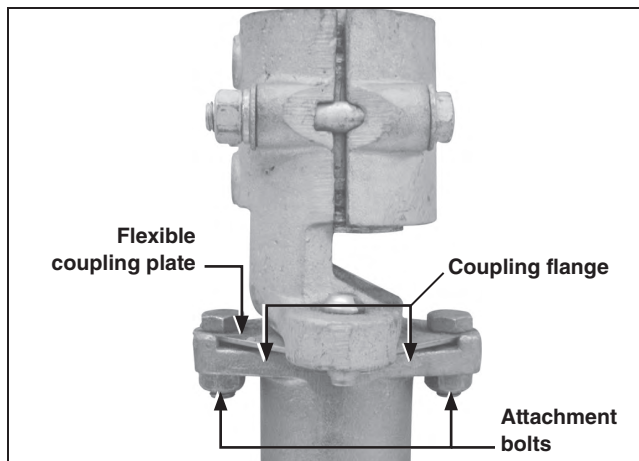

Figure 28. Attach the plate to the coupling flange.
- (c) Install and tighten the self-locking nuts. Do not use lockwashers with the flexible coupling attachment bolts. See Figure 28.